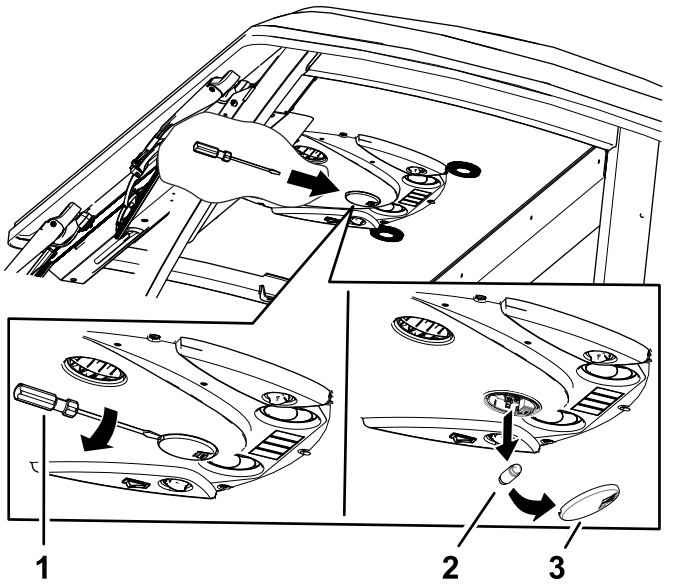

Figure 86
1. Use a screwdriver to remove the light lens from the control panel. (Figure 86).
2. Remove the bulb from the light base (Figure 86).